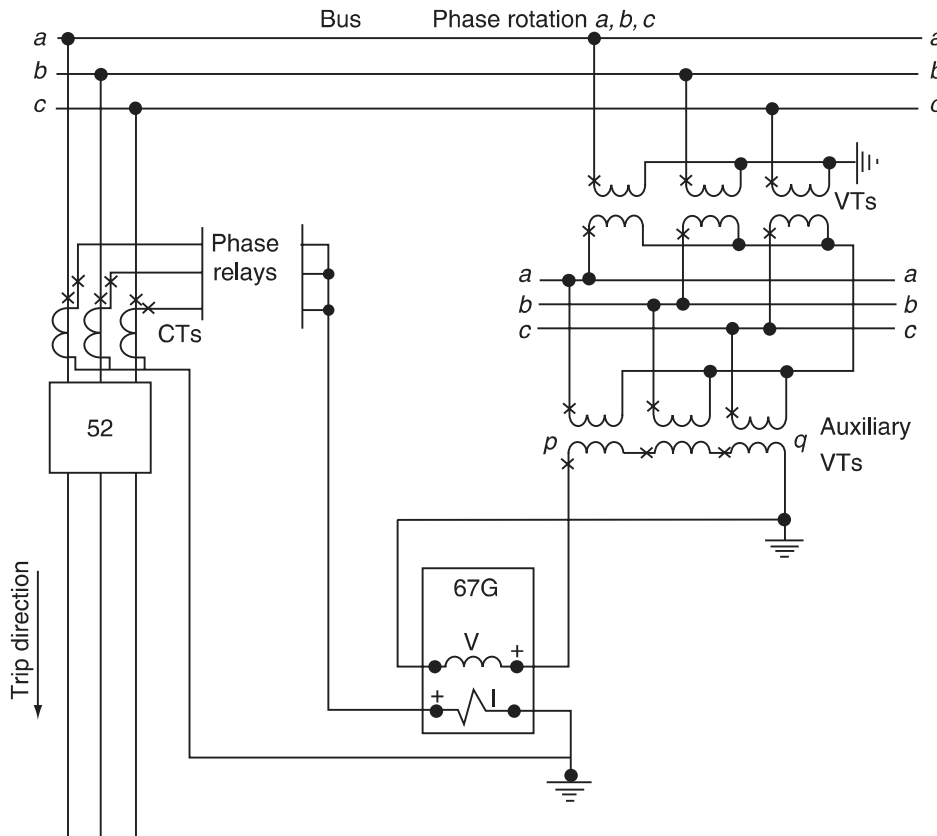

FIGURE P7.5
7.5 The directional ground relay has been connected (Figure P7.5) for operation on ground faults out on the line. The relay has maximum